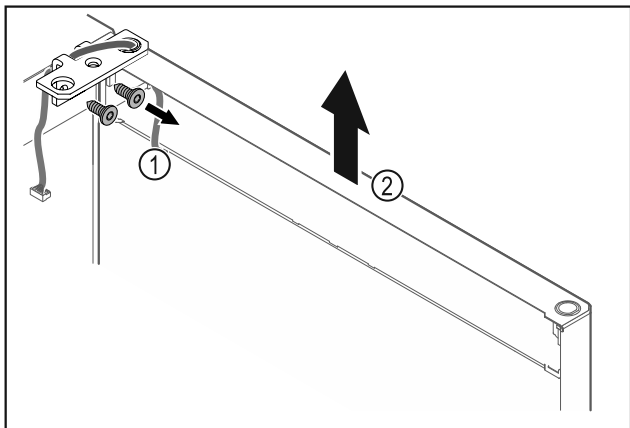

Fig. 14
- Unscrew the hinge Fig. 14 (1).
- Lift the door with the hinge straight up by Fig. 14 (2) roughly 200 mm and take it off.